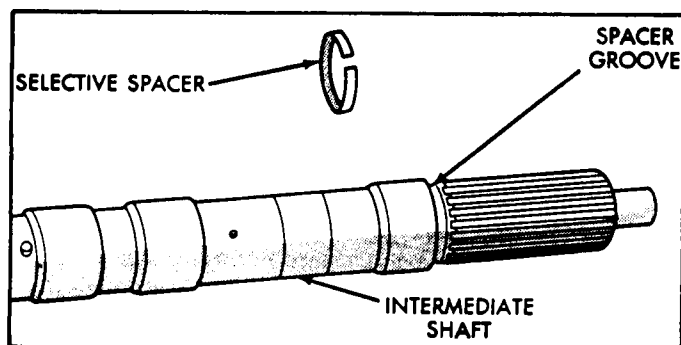

Figure 36
52. The spacer on the intermediate shaft is selective, and sets the end play on the intermediate shaft (See Figure 36).